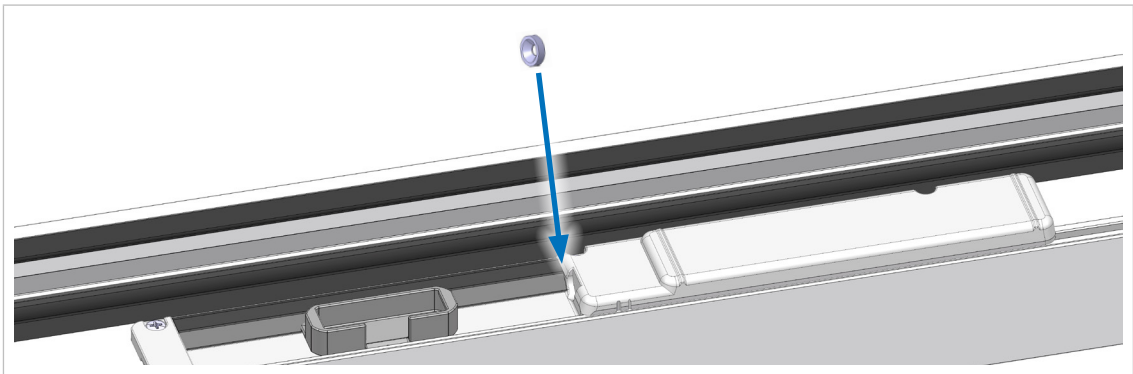

Fig. 19: Triggering a reference run again
- a) Unscrew the magnet from the sash profile and hold it up to the recess in the housing for at least 5 seconds (fig. 19).